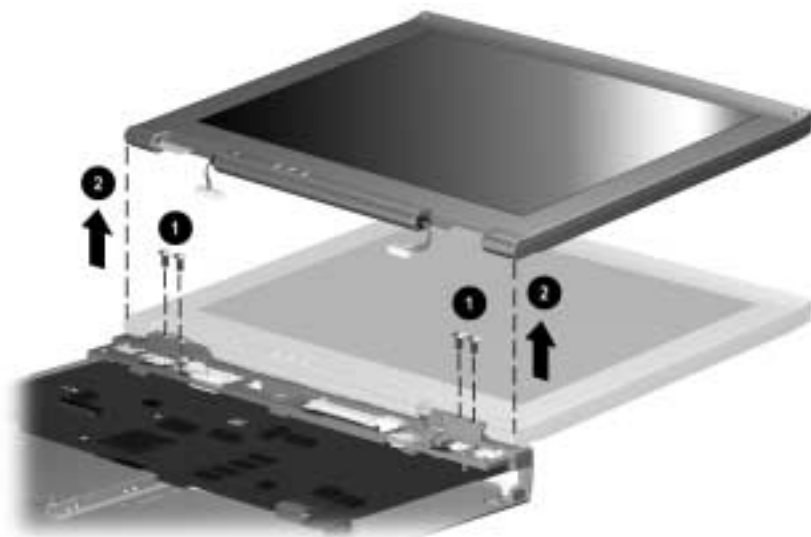

Figure 5-26. *Removing the Display Assembly*
5. Remove the four screws **1** securing the display hinges to the base assembly (Figure 5-26).